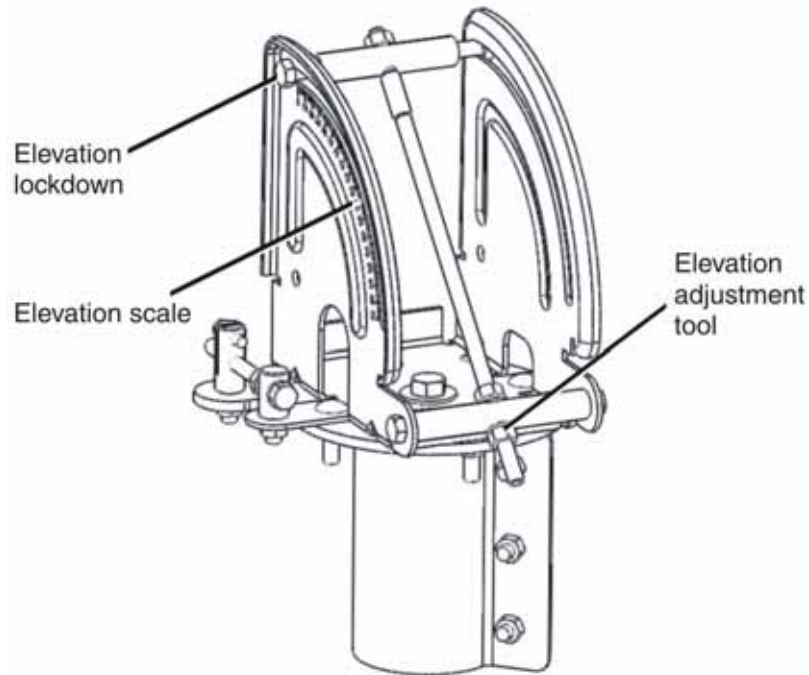

Figure 34: Elevation adjustment components
1. Unlock the elevation by loosening the 5/16-inch elevation lockdown nuts on either side of the Az/El mount. Figure 34 shows the location of the nuts (only one nut is shown).